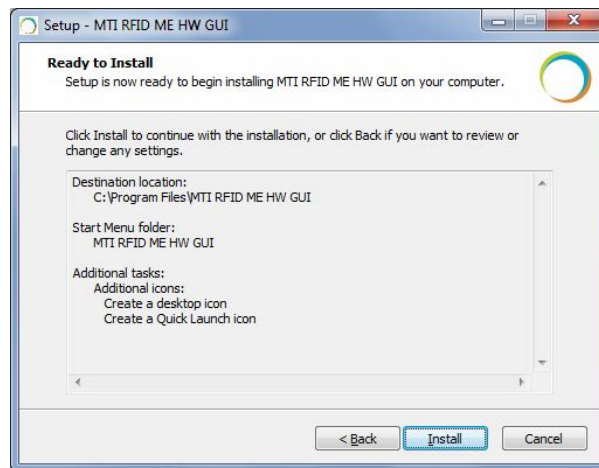

Figure 6
2.1.6. Press “Install” to begin software installation as shown in Figure 6.